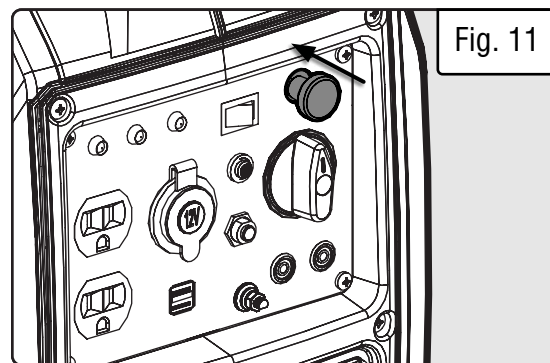

Fig. 11
13. Slowly push in the choke lever to open the choke valve (Fig. 11).